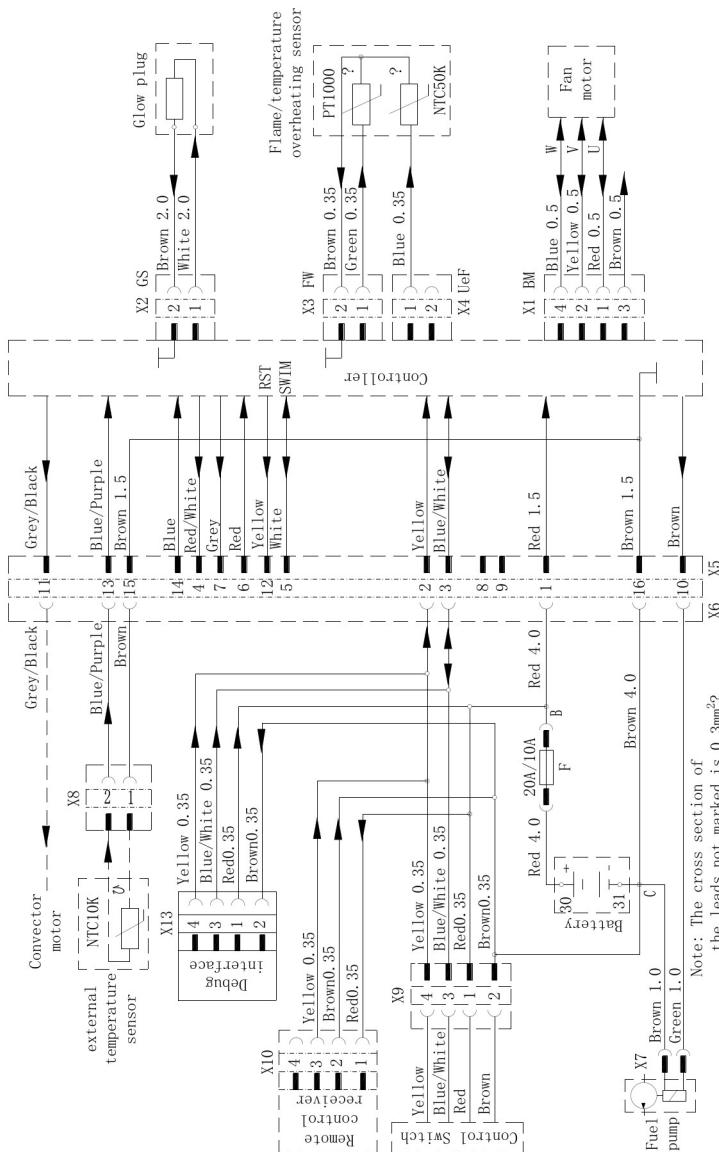

Fig. 42
- The wiring diagrams for the heater are shown in Fig. 41 (Page 120) and in Fig. 42 (Page 121).